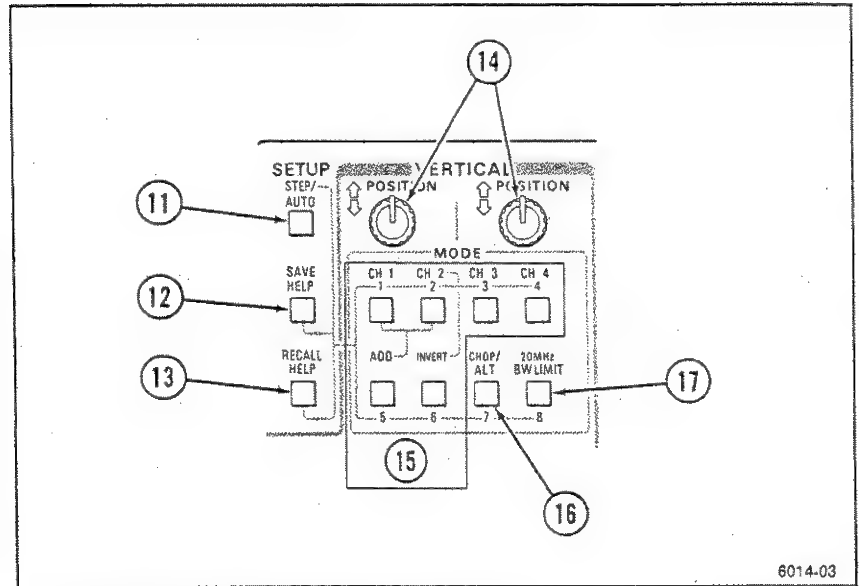

Figure 5-2. SETUP and MODE buttons, and CH 1 and CH 2 POSITION controls.
Refer to Figure 5-2 for the location of items 11 through 17.